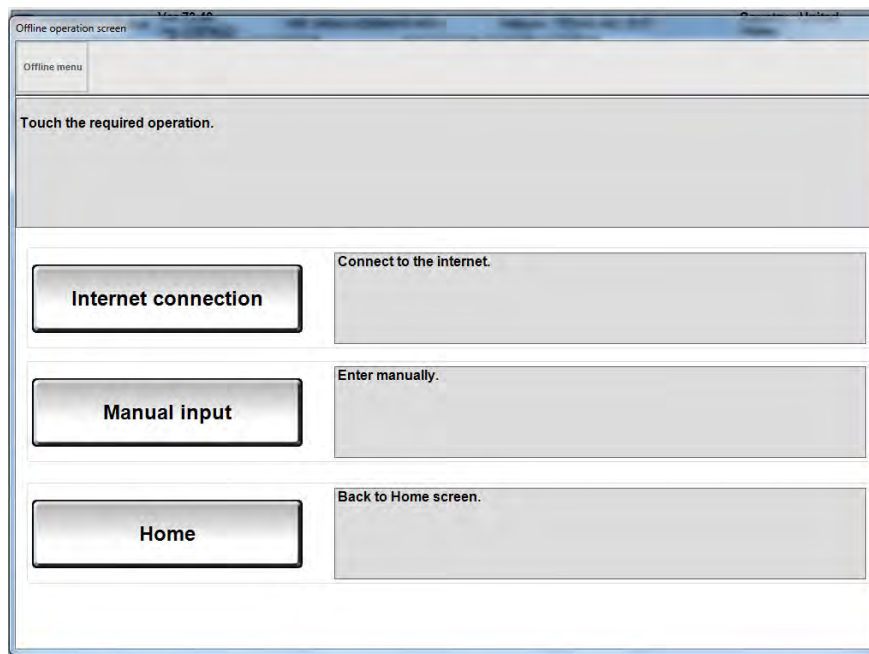

Figure 23
- If the CONSULT PC is not connected to the Internet, the screen in Figure 23 will display.